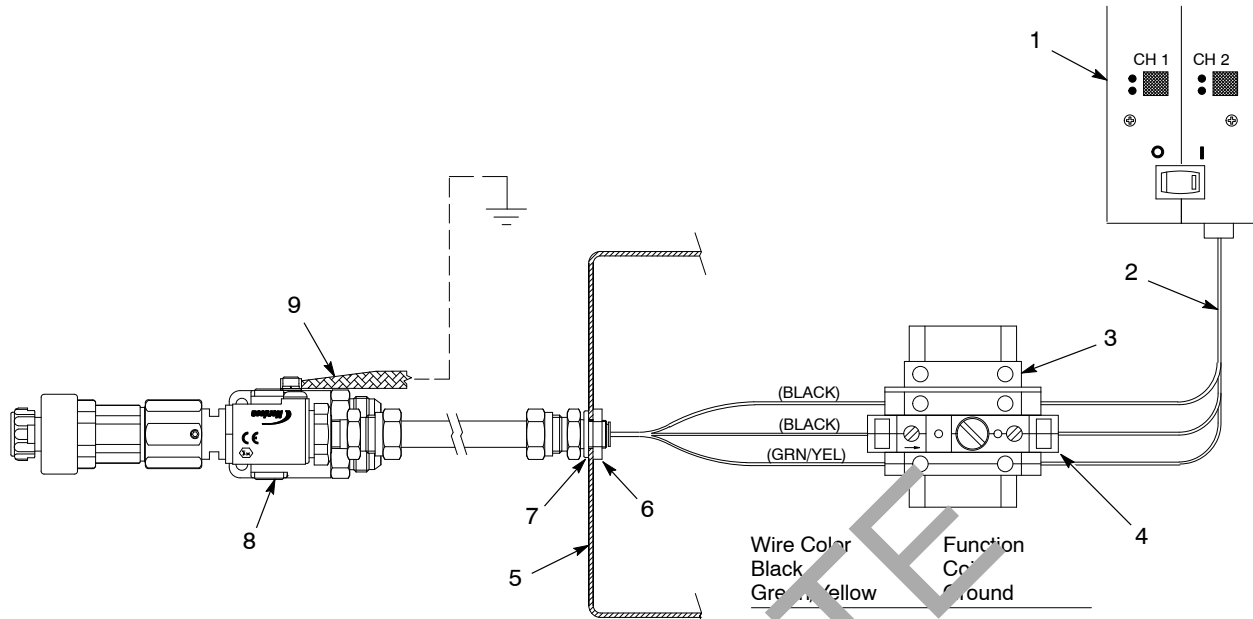

Figure 3 Electrical Connections
See Figure 3.
Bad solenoid coil	Disconnect the coil wires at the terminal block (see Figure 3) and check the coil resistance with an ohmmeter. Reading should be about 2 ohms. Replace the gun body if the resistance check fails. Use the Body with Coil Service Kit .
Blown fuse	See Figure 3. Check the fuse (4). If the fuse is blown, a lamp on the fuse holder will flash as the gun is triggered. Remove the fuse from the fuse holder and check it with an ohmmeter. Replace the fuse if blown.